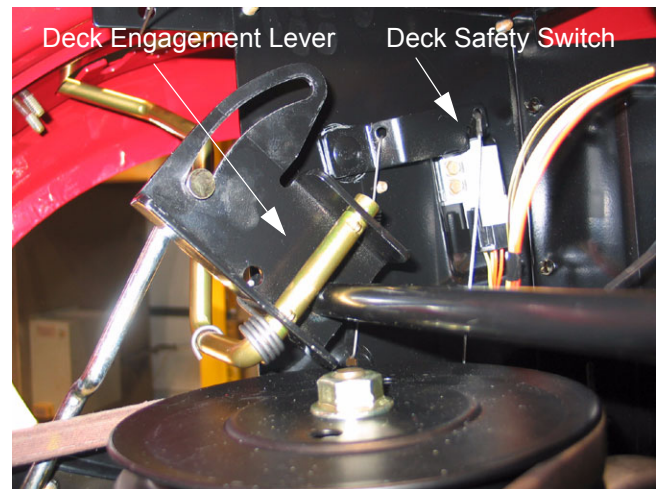

Figure 55
- 13.1. Access is gained by removing the battery and battery box. Inspect the lever for proper operation and engagement of the deck safety switch. See Figure 55.